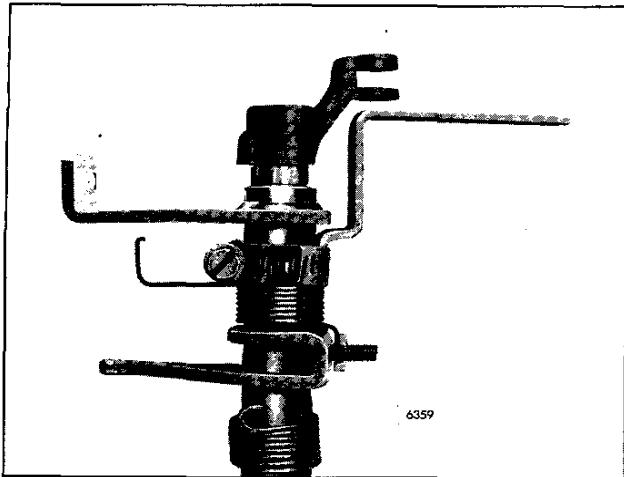

Fig. 5 - Secure Indexing Bracket to Control Tube
2. Fabricate an indexing bracket from a 5" long piece of 1/2" wide, 1/8" thick bar stock (Fig. 4). Secure the indexing bracket to the control tube with a hose clamp (Fig. 5).